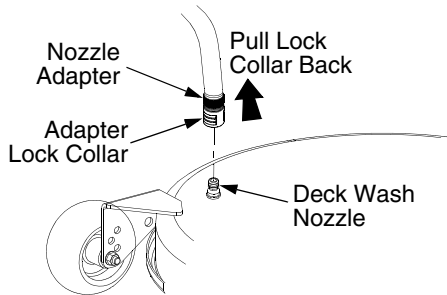

Figure 35
- Pull back the lock collar of the nozzle adapter and push the adapter onto the deck wash nozzle at the left end of the 42" mower deck, or onto one of the deck wash nozzles at either end of the 50" mower deck. Release the lock collar to lock the adapter on the nozzle. See Figure 35.